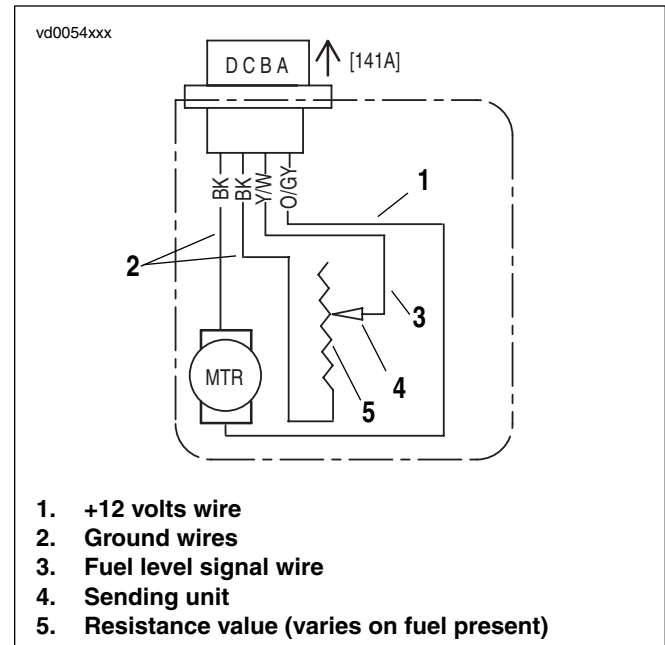

Figure 2-22. Fuel Gauge Schematic (VRSCR)
See Figure 2-22. With ignition switch ON, the fuel gauge (1) is connected to +12 volts. Current flows through the gauge and variable resistor (5) in the fuel gauge sending unit (4) to ground. The sending unit float controls the amount of resistance in the variable resistor.